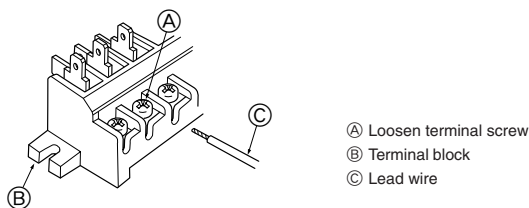

Fig. 7-8
- Use care not to make mis-wiring. (Fig. 7-8)